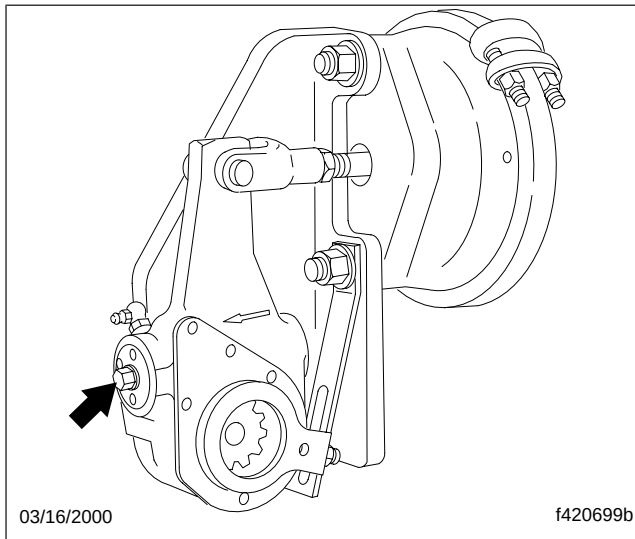

Fig. 5, Adjusting Hexnut
- 5.1 Using a torque wrench and a 7/16-inch socket, turn the adjusting nut counter-clockwise. See Fig. 5. You will hear a ratcheting sound.